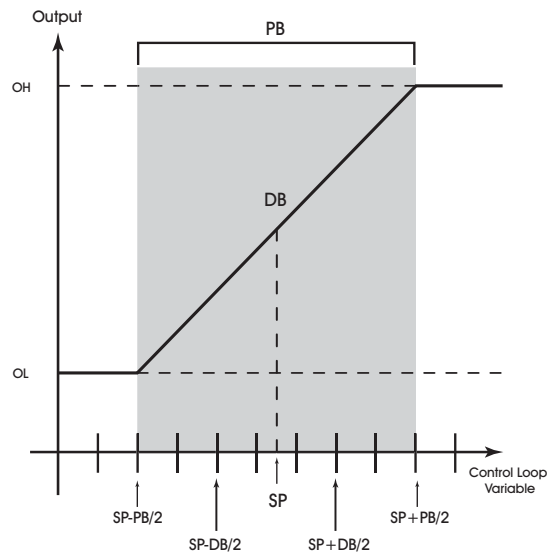
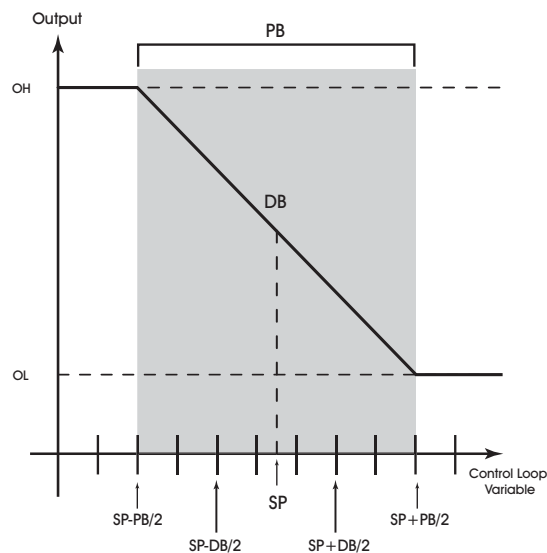

Figure 3-15: Proportional Band for Normal Acting Control ($SG = 0$)
Figure 3-16: Proportional Band for Reverse Acting Control ($SG = 1$)
To determine **PB**, first decide how closely the *NB-GPC2* must control the output to the setpoint. For instance, if the setpoint is 72°F, then an acceptable control range might be within two degrees of the setpoint. This control range can be expressed as a band centered on the setpoint: from 70° to 74°, or 4 degrees—the *proportional band (PB)*. Refer to Figure 3-15 and Figure 3-16.
For normal acting control loops (see Figure 3-15), the **(PO) Percent Output** property is set to maximum output when the input variable equals the setpoint plus half of the proportional band ($CS + PB/2$). The percent output is set to minimum output when the input variable equals the setpoint minus half of the proportional band ($CS - PB/2$). These associations are reversed for reverse acting control loops. **PO** will be midway between minimum and maximum output when the measured variable is equal to the control setpoint **CS**. The opposite would be true for reverse acting control loop as shown in Figure 3-16.